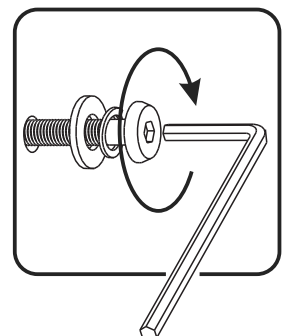

Figure 1
Attach Rail (D) to Side (B) with Head Cap Bolts (short), Spring Washers and Flat Washers, tightening bolts only halfway. (See Figure 1)